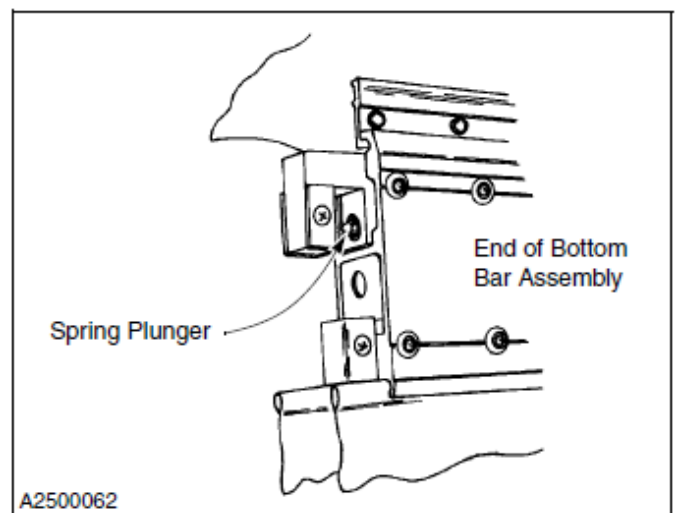

Figure 40
7. **Spring Plungers:** A spring plunger at each end of the bottom bar assembly must be lubricated with a good quality penetrating oil. (See Figure 40)